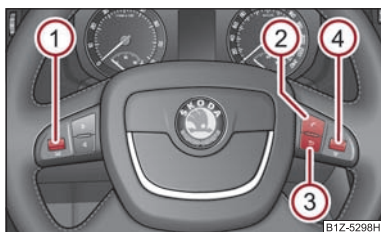

Fig. 126 Multifunction steering wheel: Control buttons for the telephone
The driver can set the basic functions of the telephone by simply operating the buttons located on the steering wheel so that he can concentrate on the traffic situation without being distracted as little as possible by operating the telephone ⇒ fig. 126.
- by pressing the  button on the multi-function steering wheel for a longer time ⇒ page 125, fig. 126.